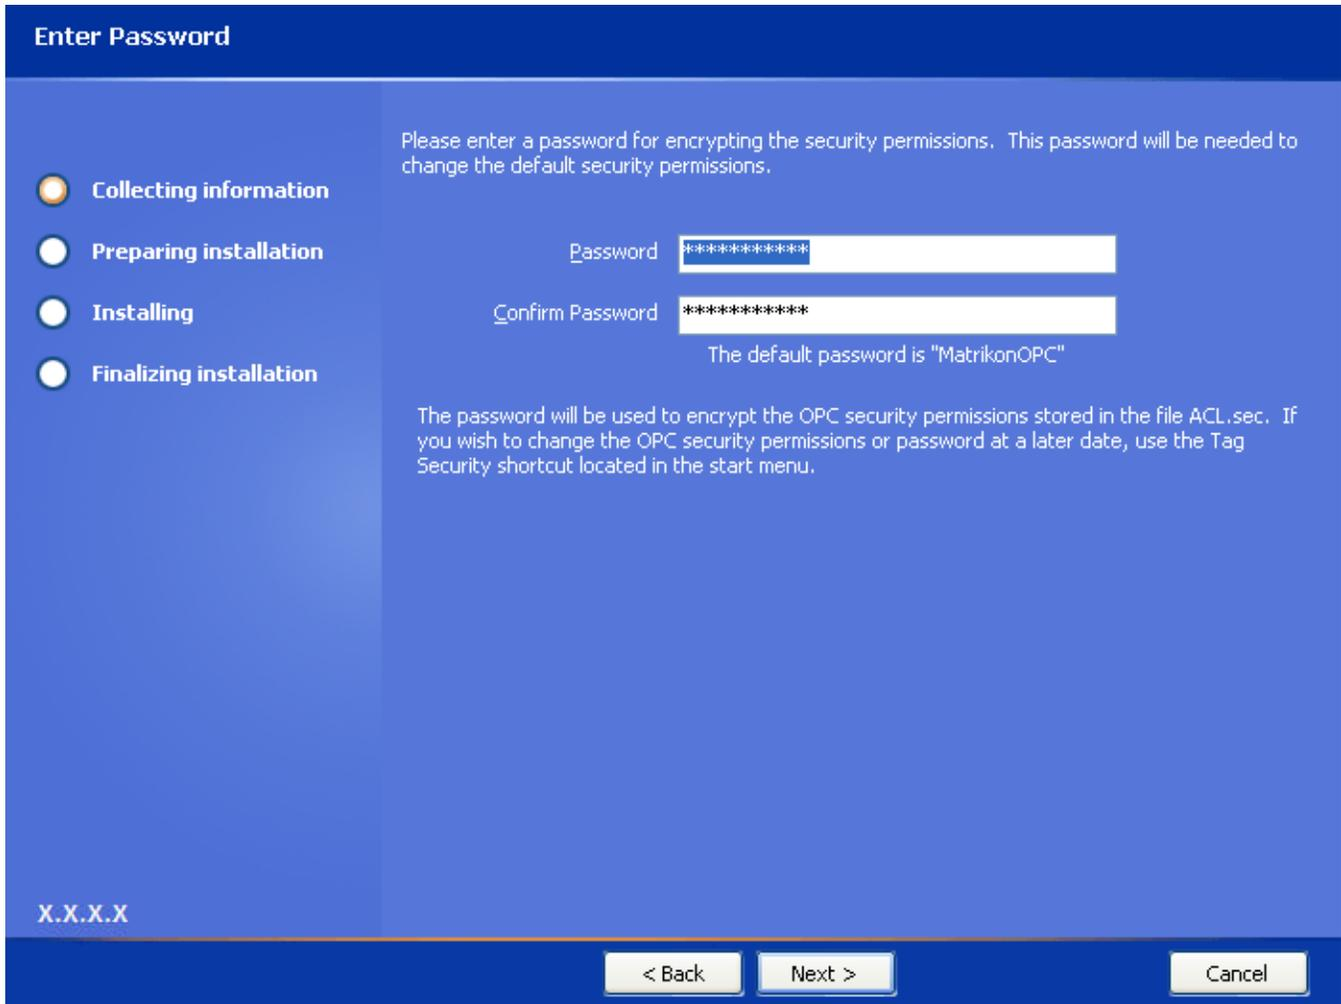

Figure 6 - Enter Password Screen
11. Click on the **Next** button. The **Enter Password** screen (Figure 6) appears.